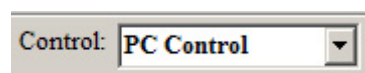

Fig. 4-10-1 Select the Control drop down menu
- 1.) Through the Control drop down menu, shown Fig. 4-10-1. This menu provides four control instructions which includes: